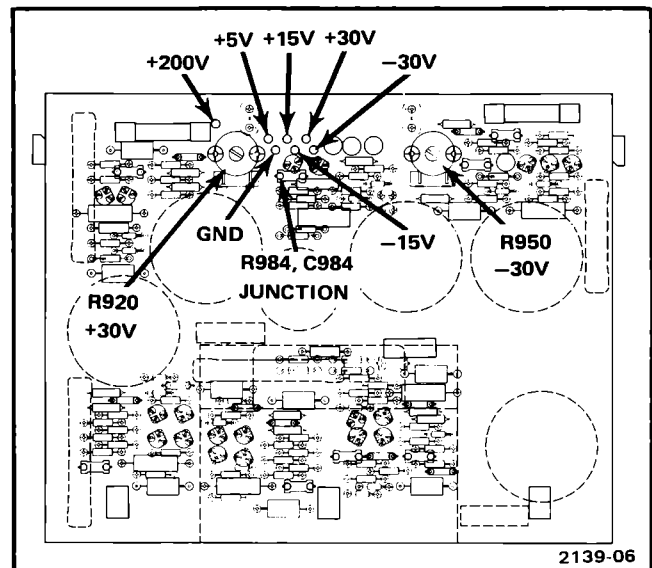

Fig. 4-1. Location of power supply test points and -30 V and +30 V adjustments.
b. Connect the digital voltmeter between the -30 V test point on the LV power supply circuit board and chassis ground. See Fig. 4-1 for voltage test point locations.
d. ADJUST—-30 Adj R950 for a meter reading of -30 V. See Fig. 4-1 for the adjustment location.
a. Connect the digital voltmeter between the +30 V test point on the LV power supply circuit board and chassis ground. See Fig. 4-1 for the voltage test point location.
c. ADJUST—+30 Adj R920 for a meter reading of exactly +30 V. See Fig. 4-1 for adjustment location.
a. CHECK—Each supply with the digital voltmeter to ensure that all output voltages are within the limits given in Table 4-2. See Fig. 4-1 for voltage test point locations.
a. Connect the digital voltmeter between the CALIBRATOR current loop and a ground test point. See Fig. 4-1 for ground test point location.
b. Apply a ground connection (short circuit) between the junction of R984 and C984 and a ground test point on the low-voltage and calibrator board. See Fig. 4-1 for the junction and ground test point location.